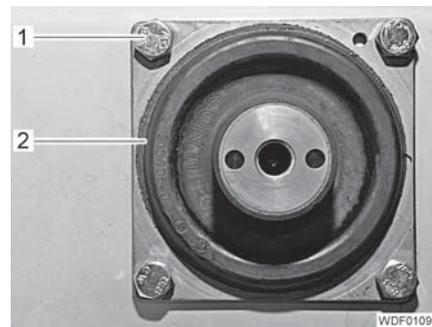

Fig. 360 Rubber buffer attachment
- Unscrew 4 screws (Fig. 360,1) on both sides.
- Remove 1 rubber buffer (Fig. 360,2) on both sides.
- Insert 1 rubber buffer (Fig. 360,2) on each side.
- Screw in and tighten 4 bolts (Fig. 360,1) with spring lock washers and disks.